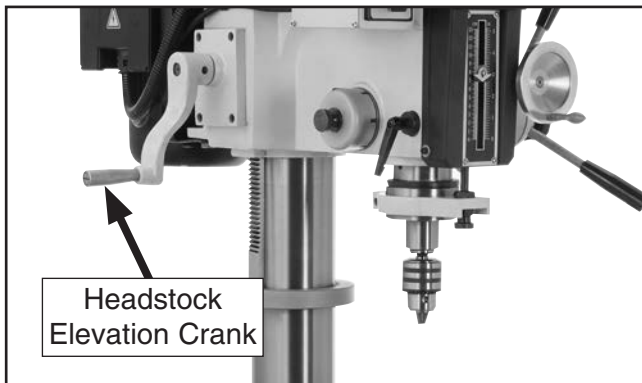

Figure 20. Location of headstock elevation crank.
3. Use headstock elevation crank (see **Figure 20**) to move head up or down as desired. Use your hands to rotate headstock on column as needed.